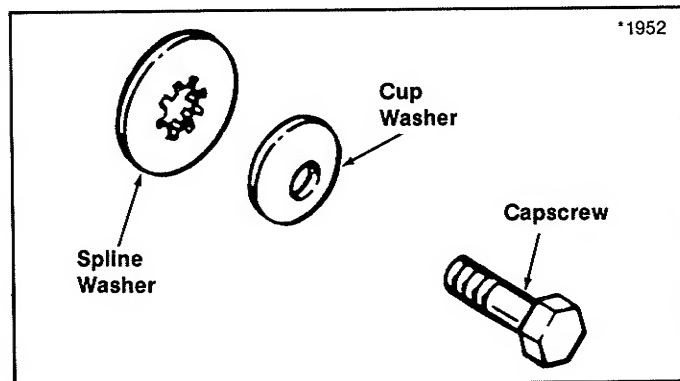

Figure 18. Blade Hardware
1. Reinstall the blade(s) with the tabs pointing upward. Install the spline washer, cup washer, and capscrew (see figure 18). Be sure the splines on the spline washer are engaged with the shaft splines. Spline washer should be installed with the collar up (inside mower blade hole). Be sure cup washer is installed with the concave side up.